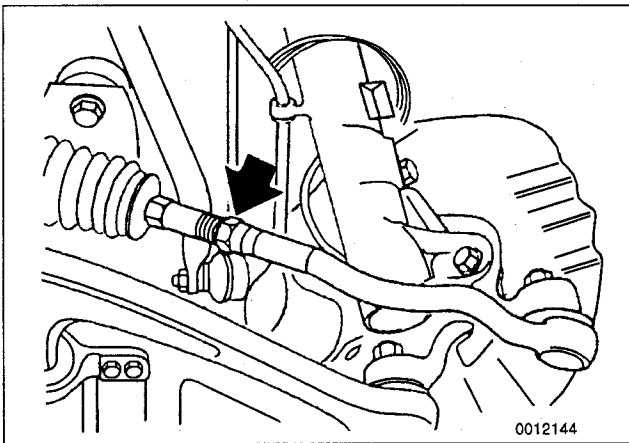

Fig. 9. Outer tie rod end lock nut (arrow).
- Loosen outer tie rod end lock nut. See Fig. 9.